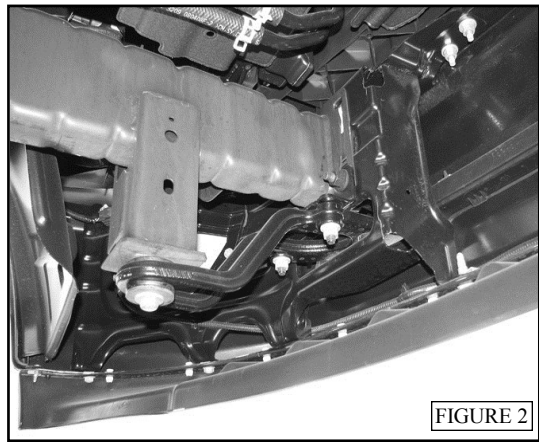

FIGURE 2
- If the vehicle is equipped with tow hooks remove the two nuts that hold the front of the tow hook. (FIGURE 2)